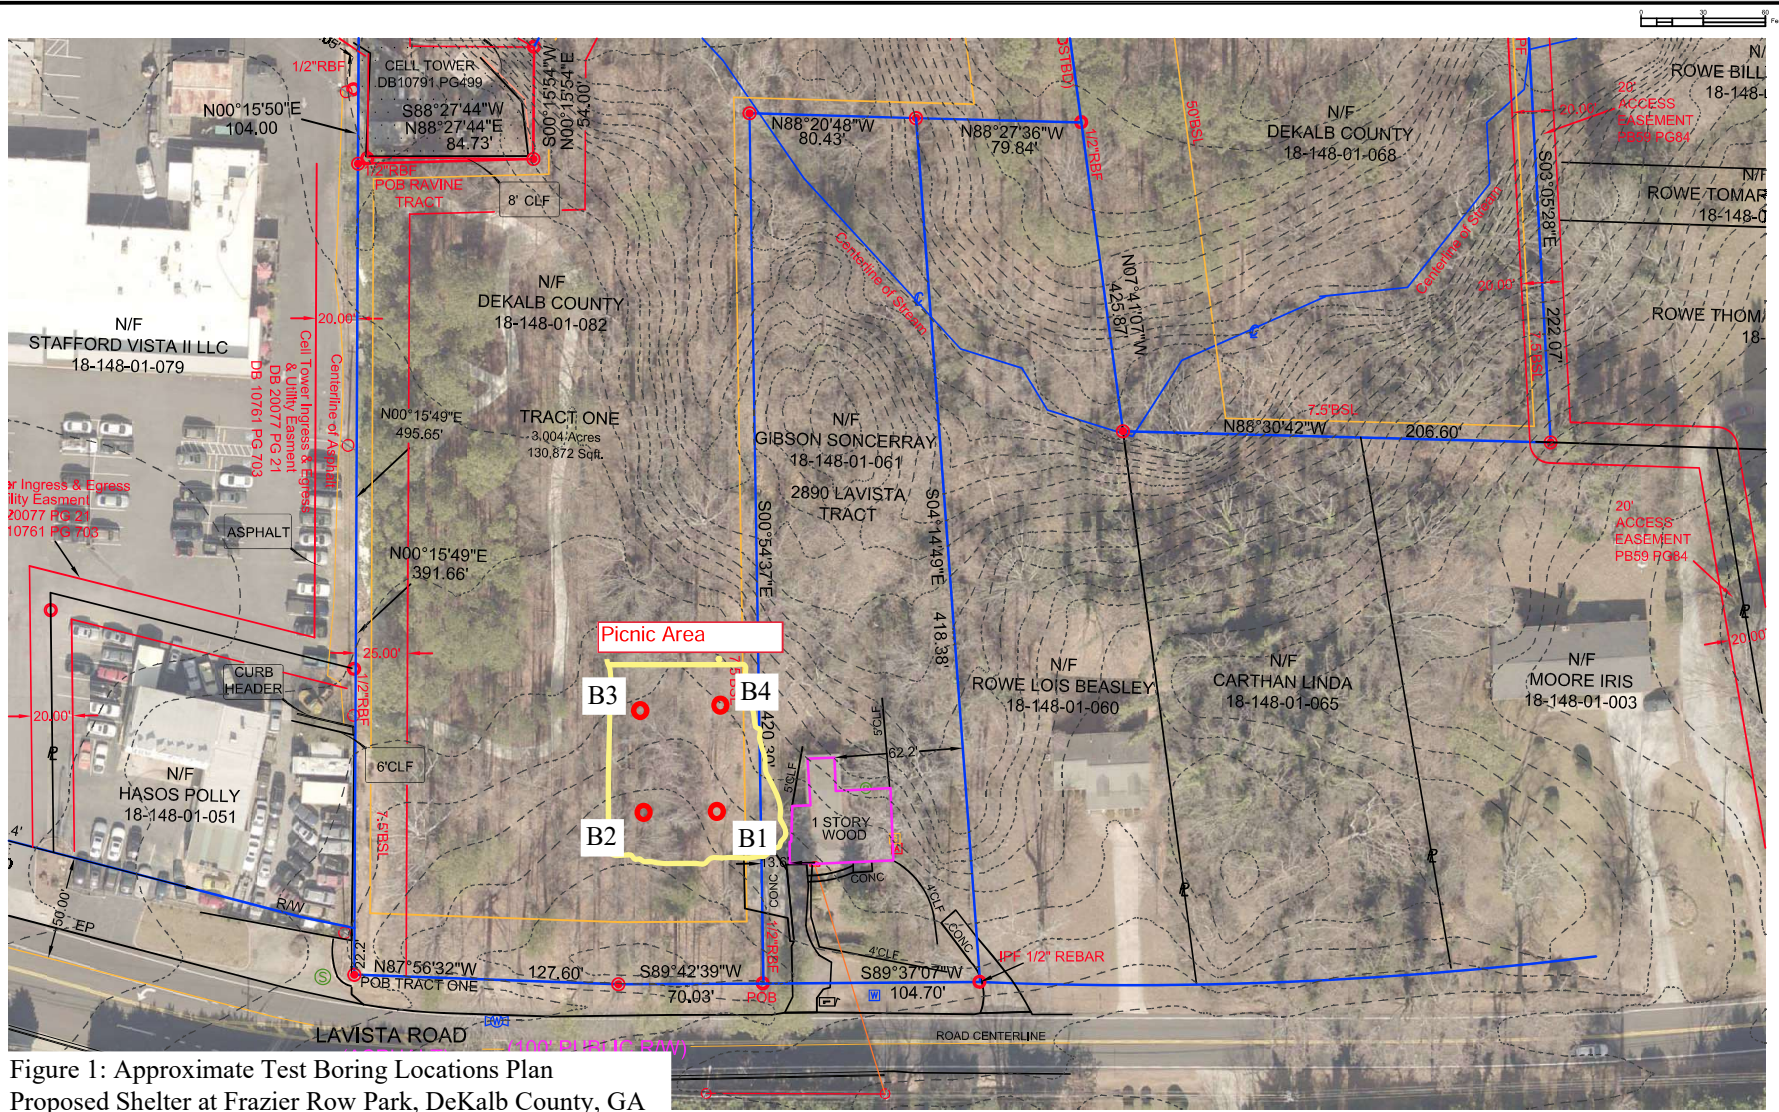

Figure 1: Approximate Test Boring Locations Plan
As requested, Matrix Engineering Group, Inc. (Matrix) completed the soil testing at the Frazier Rowe Park. The soil testing included performing a total of four (4) soil test borings at the proposed area planned for a picnic Shelter. The objective of the testing was to explore the subsurface conditions, determine the soil's bearing capacity, and provide recommendations for the foundations of the proposed structure. Refer to Figure 1 attached for the approximate test locations.